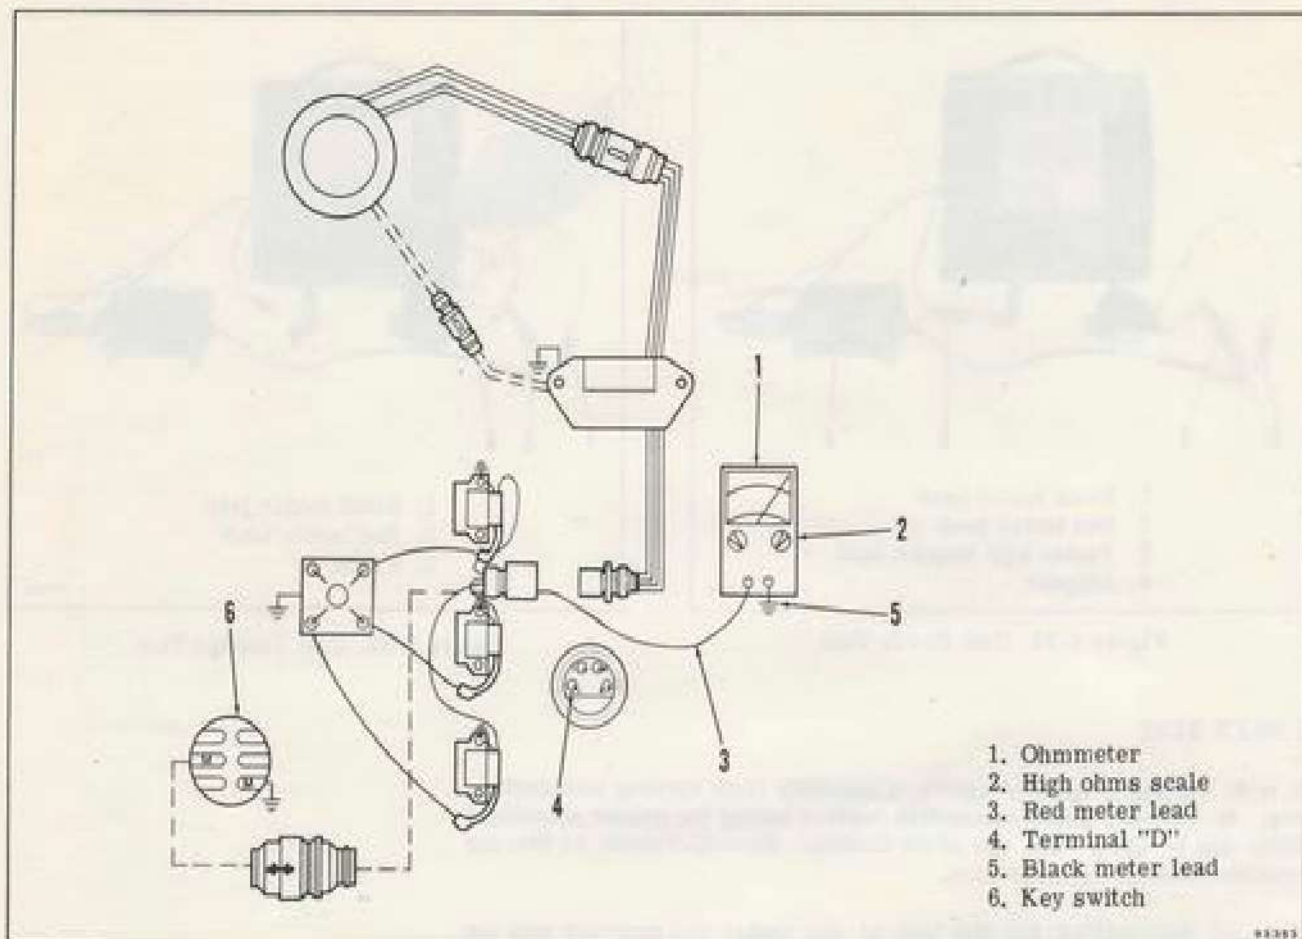

Figure 4-34. Key Switch Circuit Test
Ignition coil and high tension leads may be tested for leakage or insulation failures using the ignition analyzer. Leakage is caused by moisture, cracks in the coil housing, or carbon paths. Connect the coil to the ignition tester per manufacturer's instructions. Probe entire surface of the coil and high tension leads. Flashover will be apparent wherever insulation has broken down. Replace any coil which shows leakage. See Figure 4-34. (High tension lead must be disconnected from tester.)
d. The meter should indicate an open circuit ( $\infty$ ). If there is any needle movement, remove the black/yellow stripe wire from the key switch "M" terminal with the ohmmeter still connected as shown in Figure 4-34.